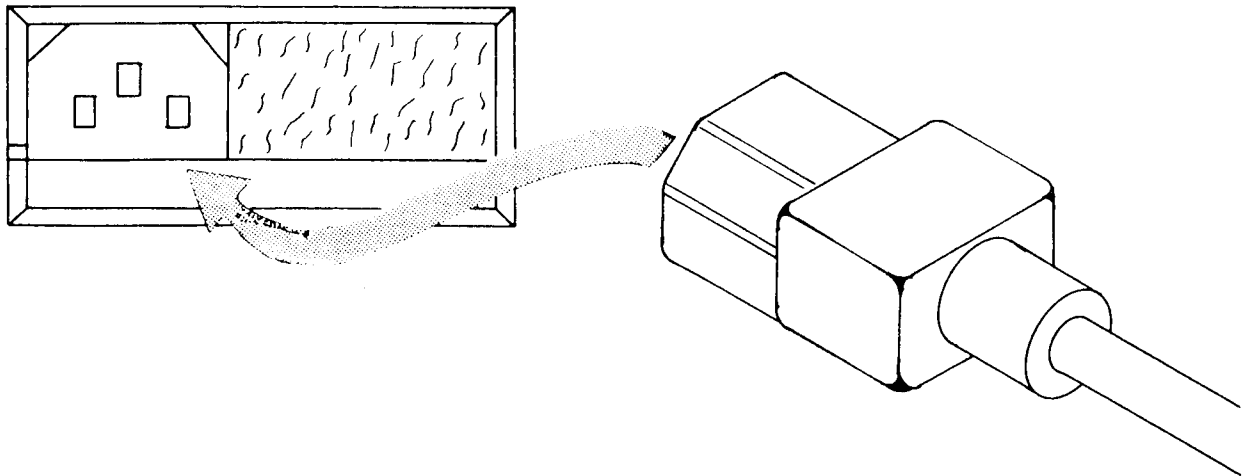

Figure 39. Plug Power Cord Into 610B Receptacle
- c. Plug the female connector on the AC power cord into the AC power receptacle on the rear panel of the 610B (see Figure 39).